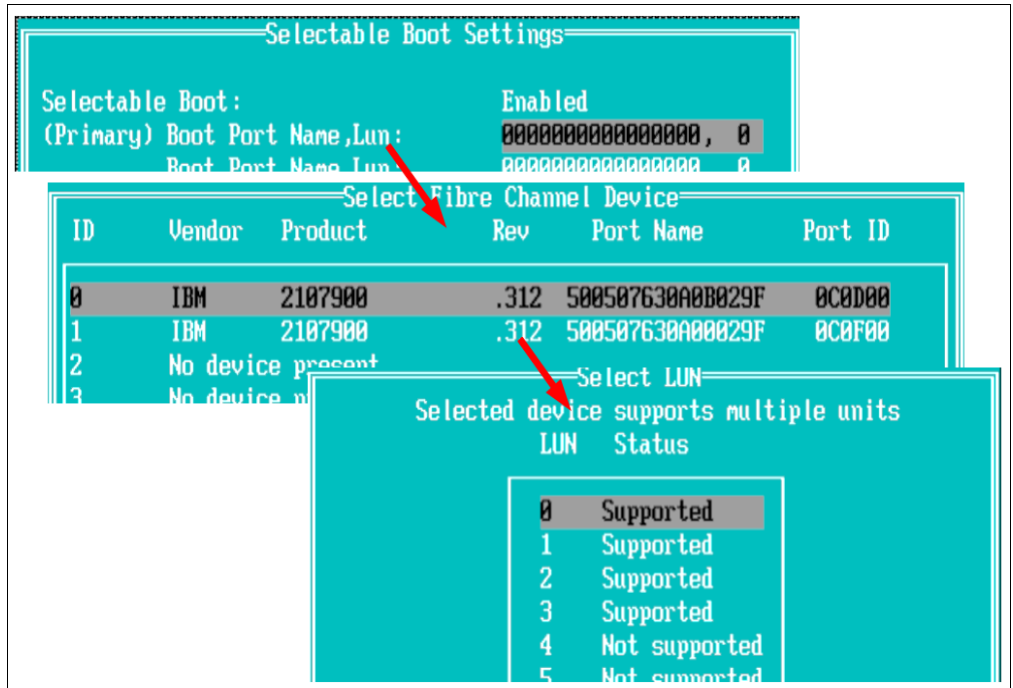

Figure 2-5 Select boot device
- b. Select the first boot device entry and press Enter, as shown in the upper panel of Figure 2-5.
- c. In the Select Fibre Channel Device panel, as shown in the middle panel of Figure 2-5 on page 11, select the DS8000 port that you want to use to access the boot volume. Press Enter.
- d. In the Select LUN panel, which shows the available ports with their worldwide port name (WWPN), as shown in the lower panel of Figure 2-5 on page 11, select the logical unit number (LUN) that represents the boot volume. Then press Enter.